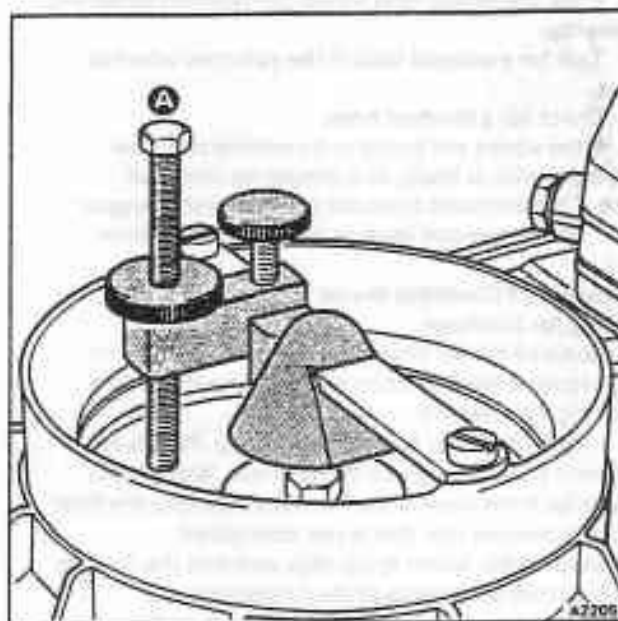

Fig. B3-33 Air flow sensor plate movement adjustment device
6. Press switch number one on the test equipment and move the air flow sensor plate downwards (using the adjusting device shown in figure B3-33) until the reading on the small rotameter indicates a flow of approximately 6,7 ml/min.